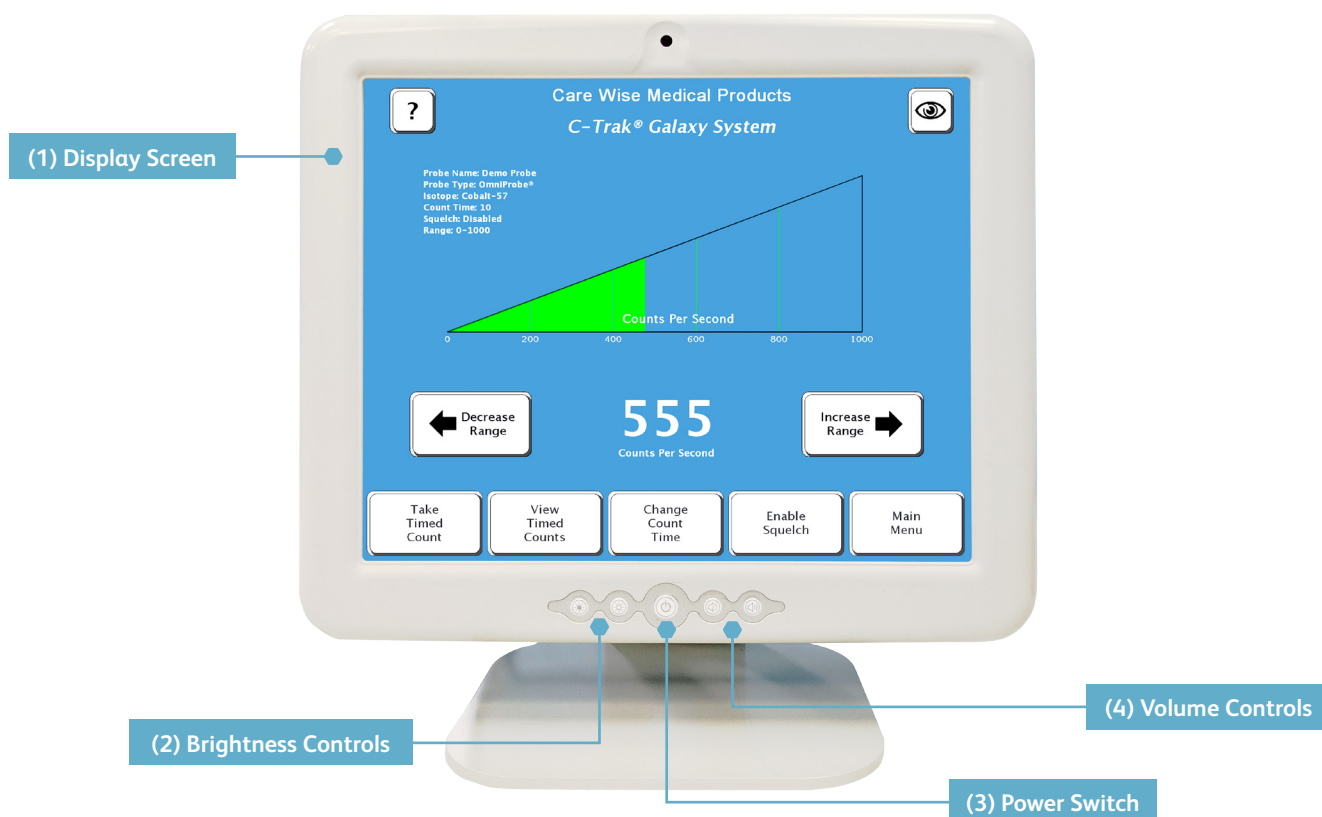

Figure 1 – Front Panel of C-Trak[®] Galaxy System
3. Set RANGE at desired setting based on the expected level of activity. A range of 0-100 is often preferred for the initial survey [Figure 1].
4. Check VOLUME setting to ensure a comfortable level [Figure 1].
2.1 Front Panel [Figure 1]